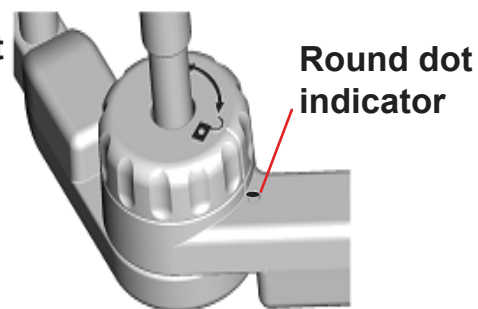

Figure 7
- Turn the base knob anti-clockwise, align the unlocked symbol on the base knob and the round dot on the bottom. In this way, it will be unlocked, as per **Figure 7**.